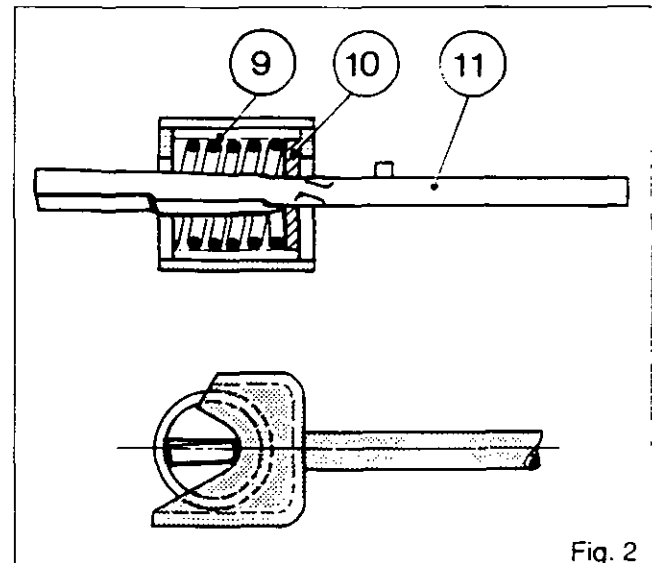

Fig. 2
15. Insert pin (5) in rack (4), with the domed end outwards.
16. Fit rack (4) onto body (3) with the 2 screws (6), having coated them with Loctite 270.
17. Prepare rod (11) with washer (10) and spring (9).
18. Place the rod in a vice and, using compression tool 3582244M1, Item 2, compress the spring as shown in figure 2.